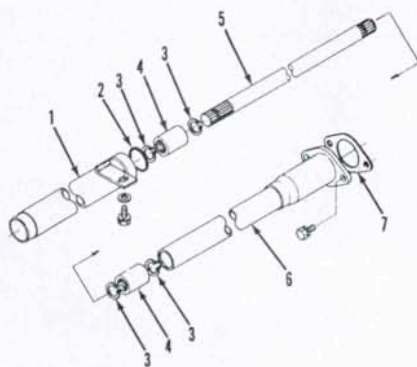

Fig. 21—Exploded view of one-piece drive shaft assembly used on some models.
9. Models L305, L345 and L355 use a two-piece drive shaft with a center carrier bearing (Fig. 22). All other models use a one-piece drive shaft as shown in Fig. 21.